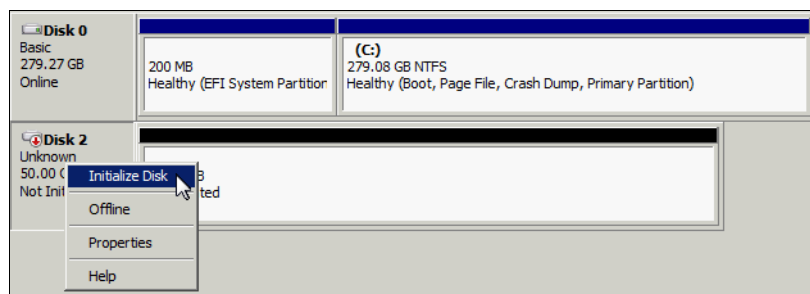

Figure 12-7 Initialize Disk menu
5. Right-click the disk again, click **Initialize Disk** (Figure 12-7), and click **OK**.